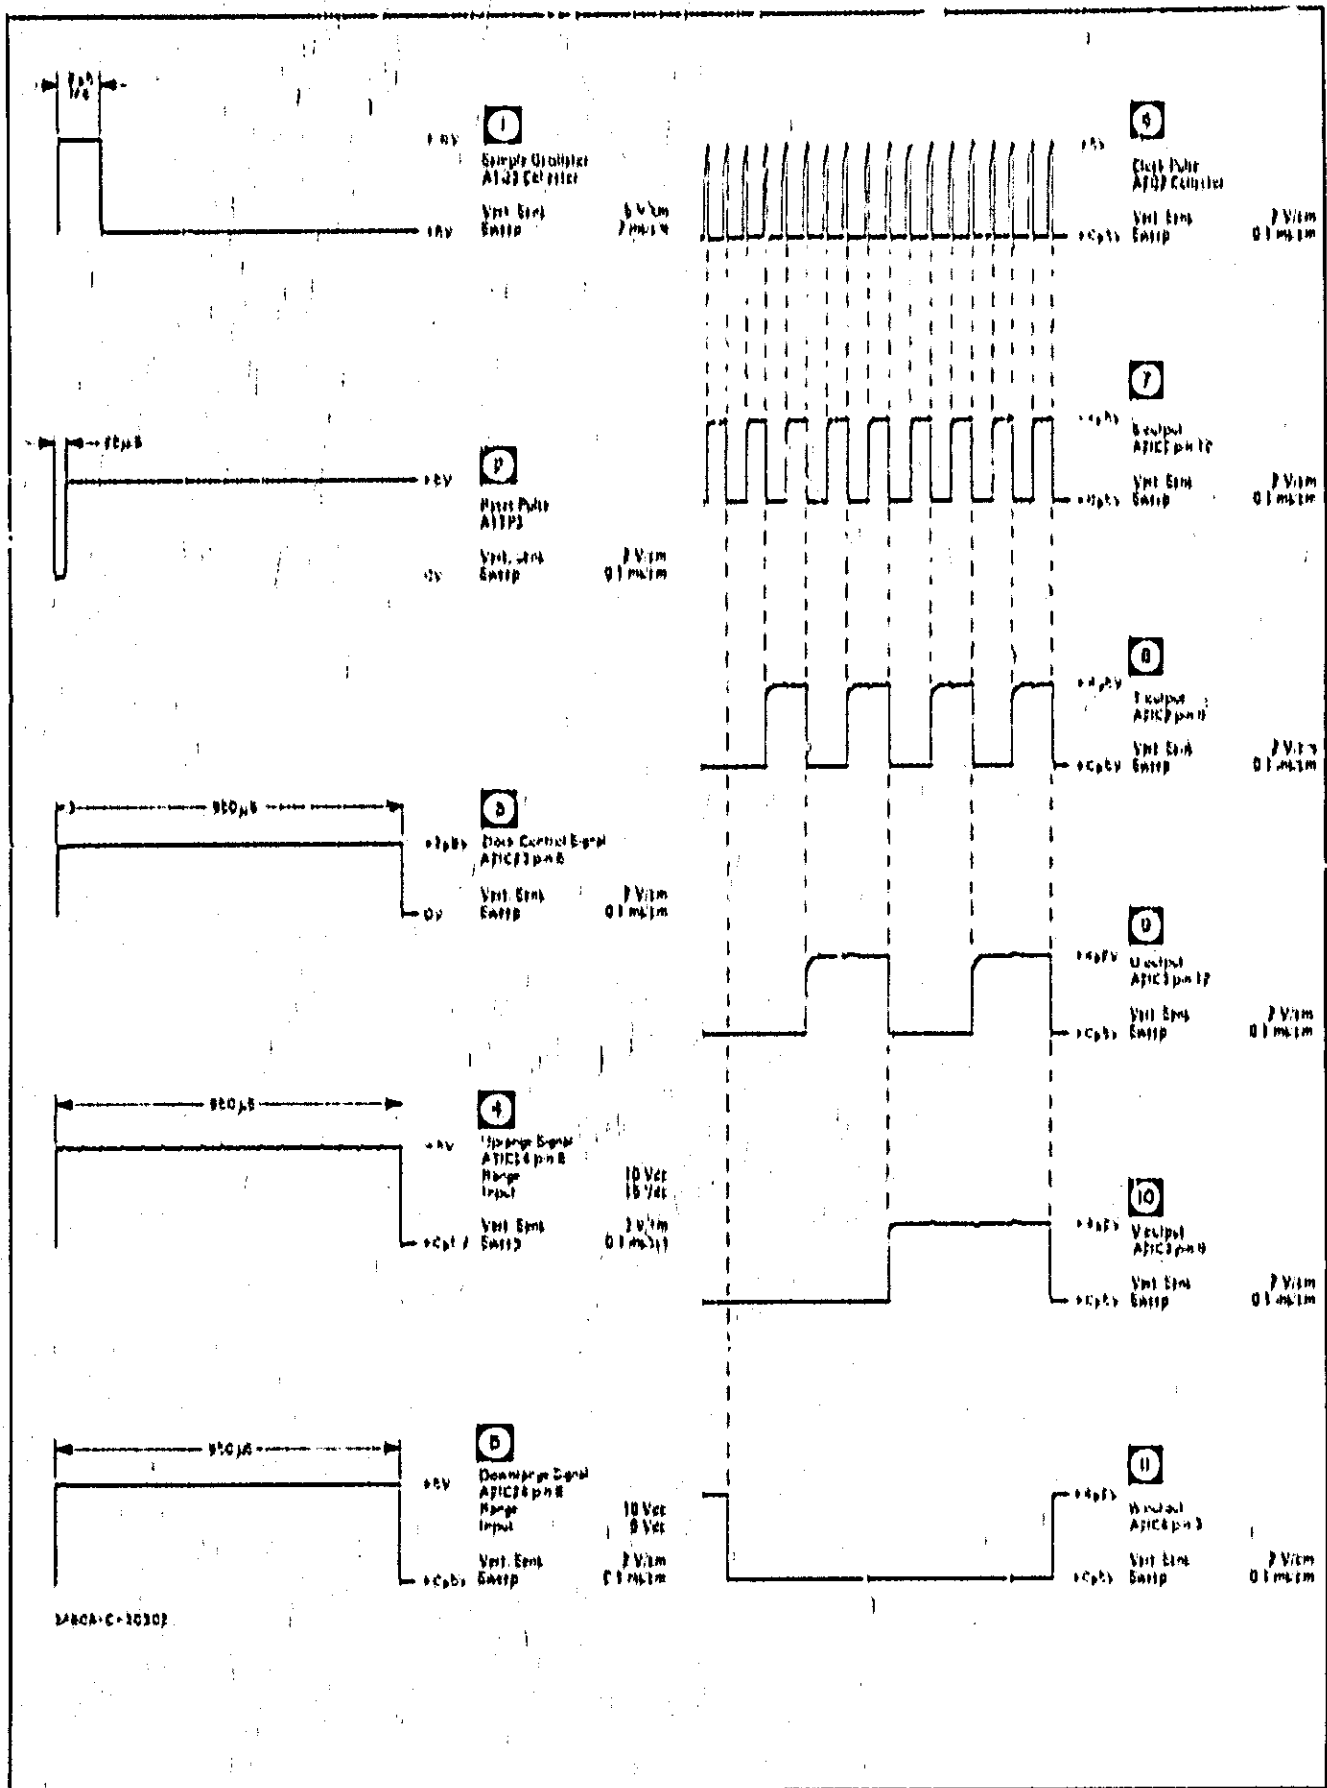

Figure 5-4a. Waveforms.
2. Waveforms appear in Figure 5-4a, b, c.
3. Waveforms appear in Figure 5-4a, b, c.